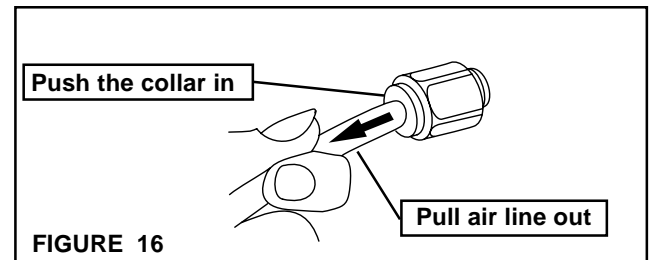

FIGURE 16
4. Disconnect the air lines from the Caliper by pushing in on collar of the fitting; then, pull the air line out of the fitting (See Figure 16).